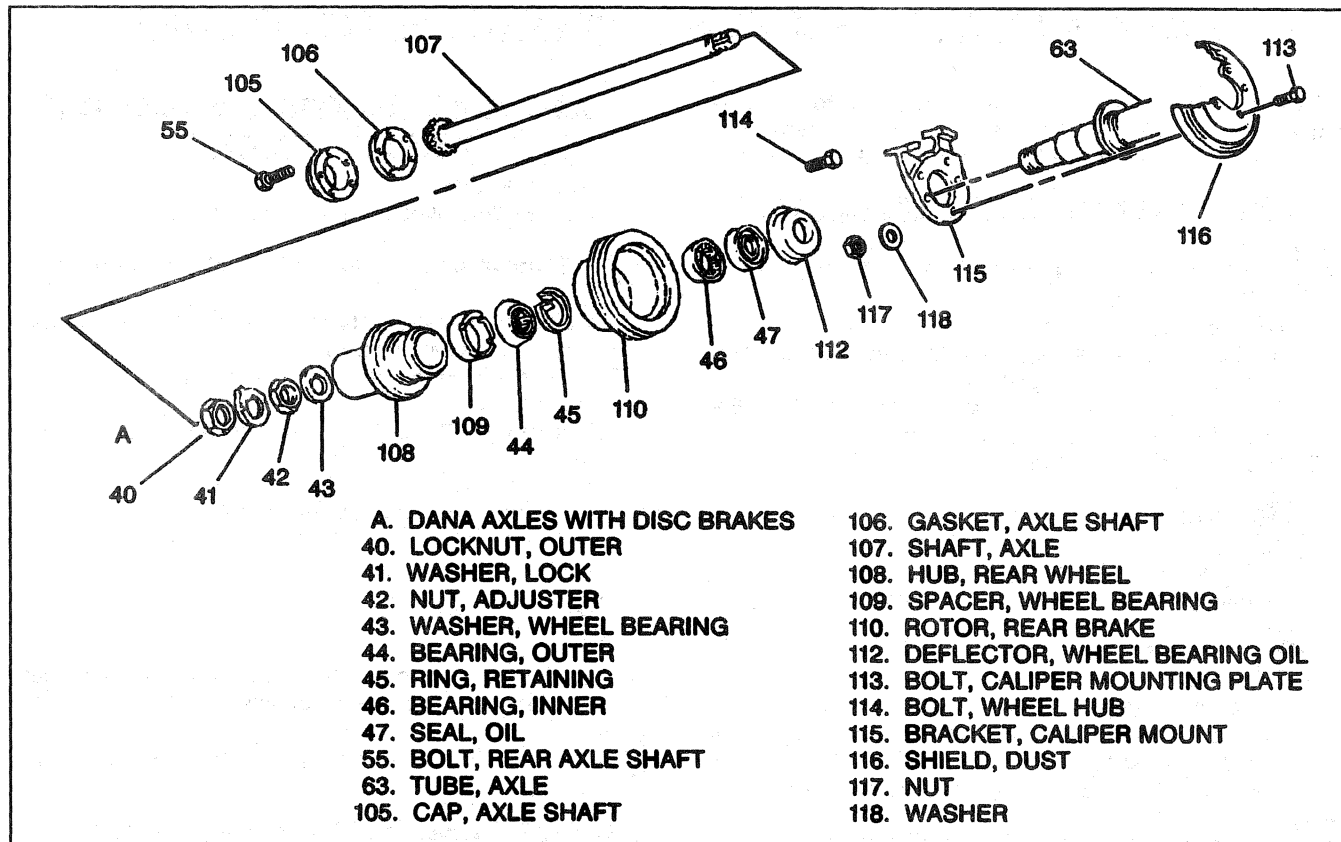

Figure 27—Full-Floating Axle, Wheel End Components
1. Axle cap bolts (Figure 27).
Remove or Disconnect (Figures 27 and 28)
Install or Connect (Figures 27 and 28)
Remove or Disconnect (Figures 27 and 29)
Install or Connect (Figures 27, 30 through 32)